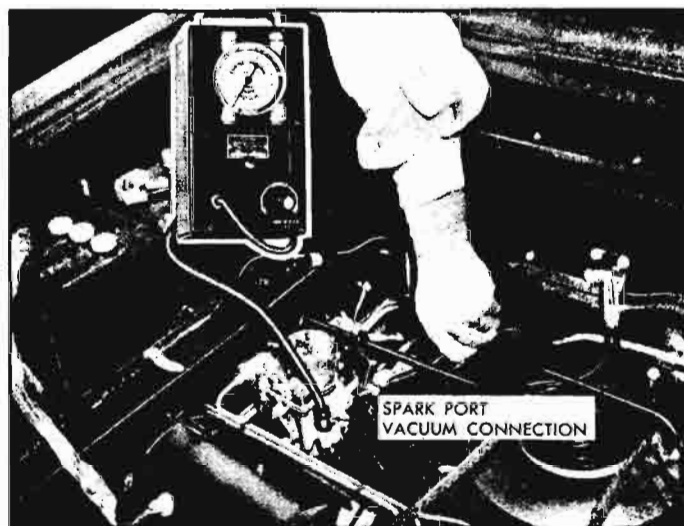

Fig. 9-13—Spark Port Vacuum Connection
- Remove distributor vacuum advance hose from right hand carburetor and plastic cap from left hand carburetor spark port adapter tubes (fig. 9-13).